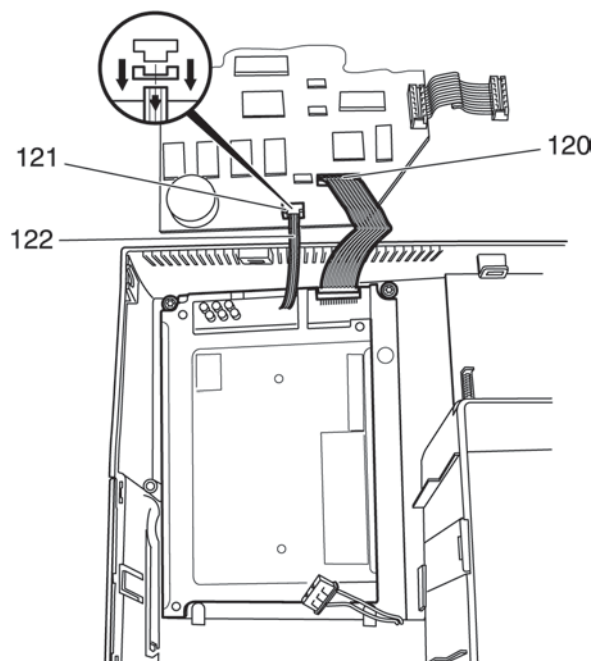

Fig. 32a
- Turn around the circuit board and place it next to the housing shell (fig. 32a).